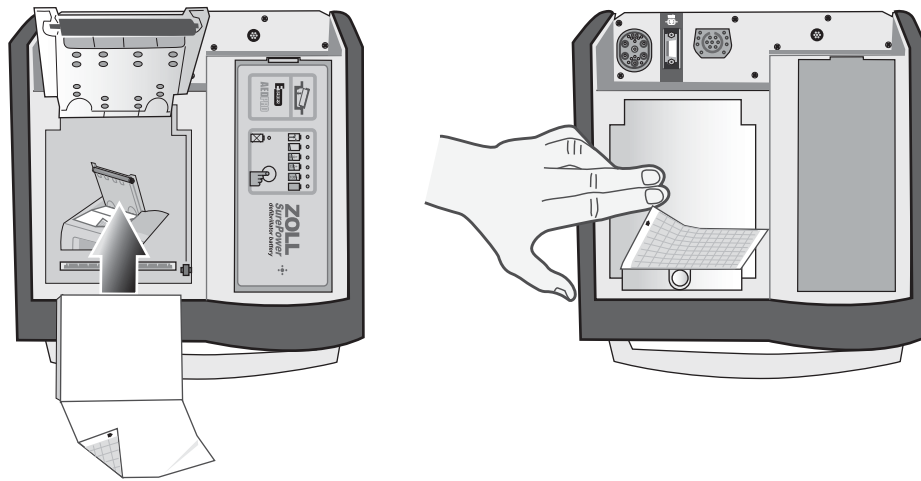

Figure 13-6. Inserting the Paper and Closing Printer Door
4. Place the paper back into the unit and close the cover (see Figure 13-6).